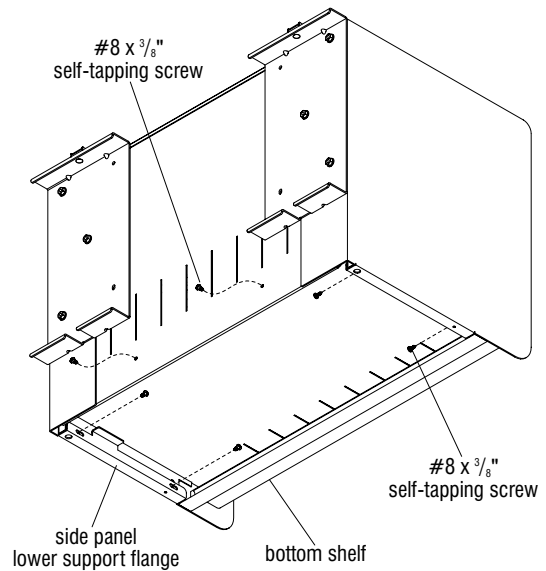

Figure 3
3. Press the bottom shelf down and adjust until the four screw holes in the bottom shelf side flanges are visible through the slots in the side panel lower support flanges. From under the cabinet, install four #8 x 3/8" self-tapping screws through the slots in the side panel support flanges. Do not tighten completely. At the lower rear of the cabinet, install two #8 x 3/8" self-tapping screws through the back and into the shelf. Do not tighten completely (Figure 3).